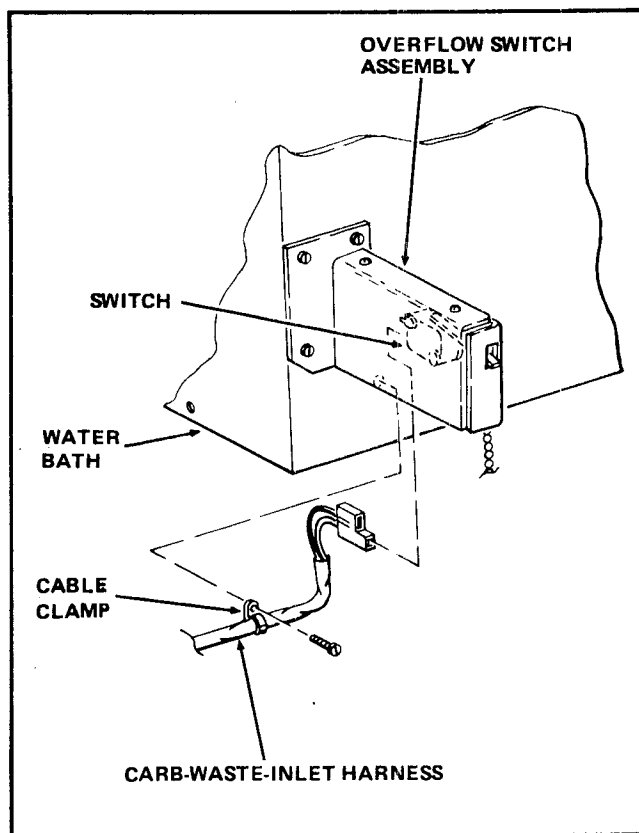

FIGURE 3
24. Disconnect the Switch Receptacle of the Carb-Waste-Inlet Harness from the Switch of the Overflow Switch Assembly. See Figure 3.
25. Remove one attaching Screw and the Cable Clamp which attaches the Carb-Waste-Inlet Harness to the front of the Water Bath Assembly. See Figure 3.